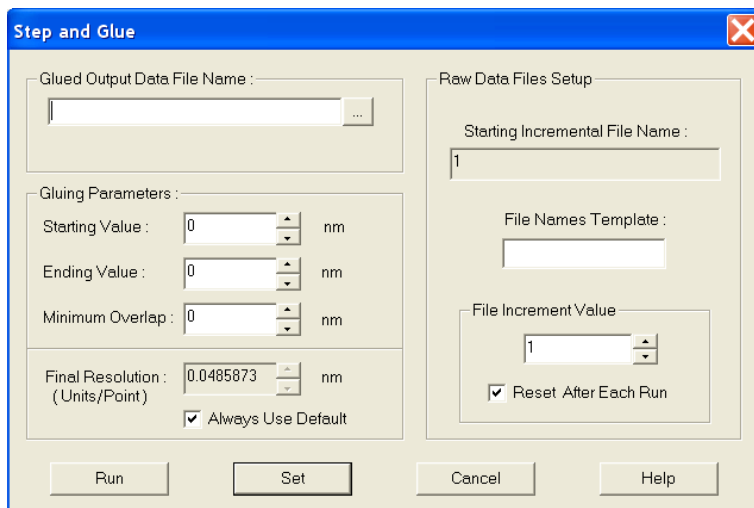

Figure 136. Step and Glue Setup dialog
4. From the Acquisition menu, select **Step and Glue**. The **Step and Glue** dialog (Figure 136) will appear. *For more information, see the online Help for this dialog.*